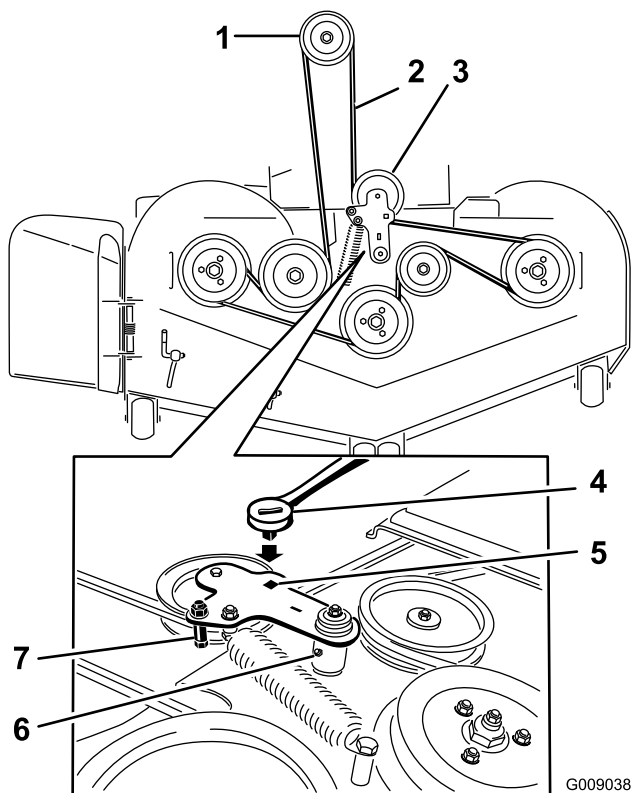

Figure 99
5. Lift up the floor pan and insert a ratchet into the square hole in the deck idler (Figure 99).
6. Rotate the deck idler clockwise and remove the mower belt (Figure 99).